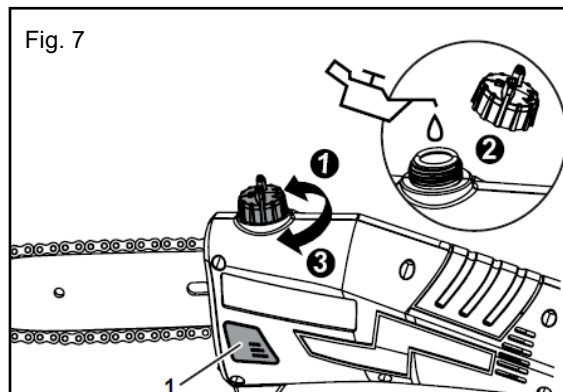

Fig. 7
- Slowly unscrew the tank cap, remove it and save it (Fig 7 □).
- Fill carefully with chain lubricating oil to about 0.4" (10mm) below the bottom edge of the filler (Fig 7 □).
- Replace the tank cap and screw it tight (Fig 7 □).